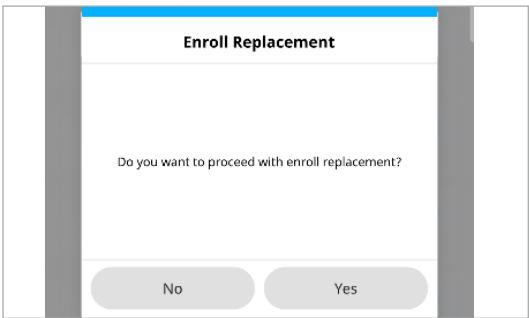

Figure 24
- Select “Yes” to proceed with Enroll Replacement. (Figure 24)